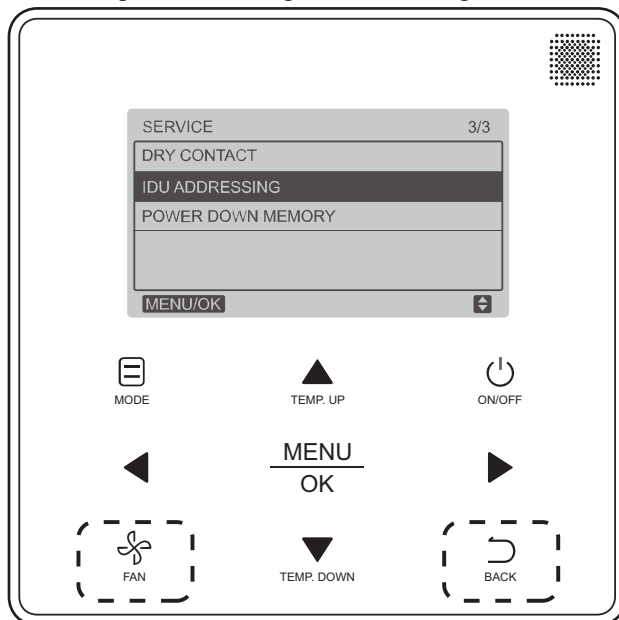

Fig. 32 — Programmable Controller IDU Addressing Menu
1. Press **FAN** and **BACK** simultaneously for five seconds to access parameter settings as shown in Fig. 32.